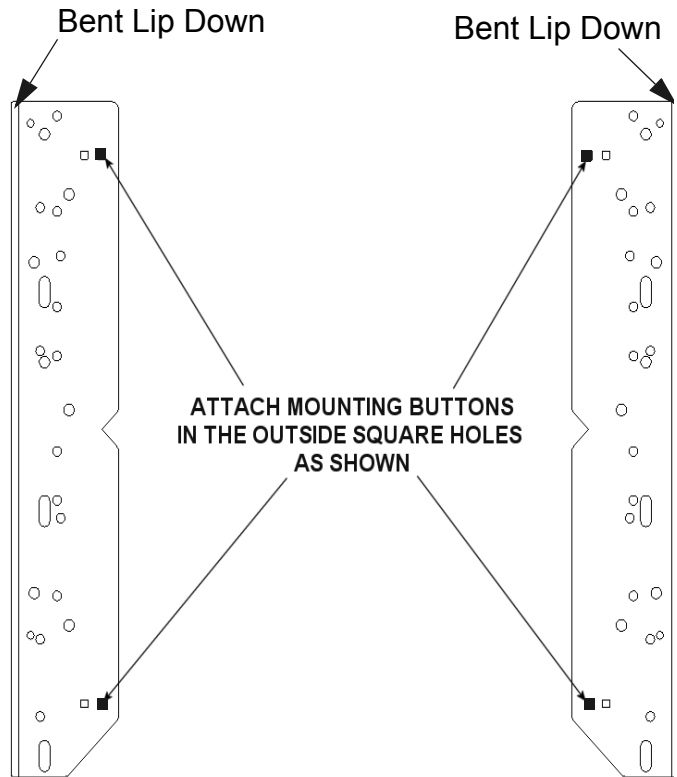
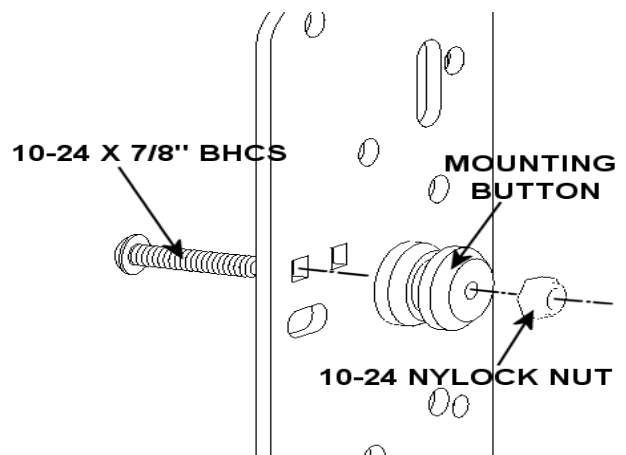

Figure 4. Brackets for Groups 9-11 with Bent Lip Down
Figure 5. Button Installation for Groups 9-11
1. Lay the interface brackets out with the bent lip of each interface bracket down (see Figure 4).
3. Using the mounting buttons and hardware in the parts bag labeled A, attach the mounting buttons in the square holes closest to the outer edge (outside) of the interface bracket (see Figure 4 and Figure 5).